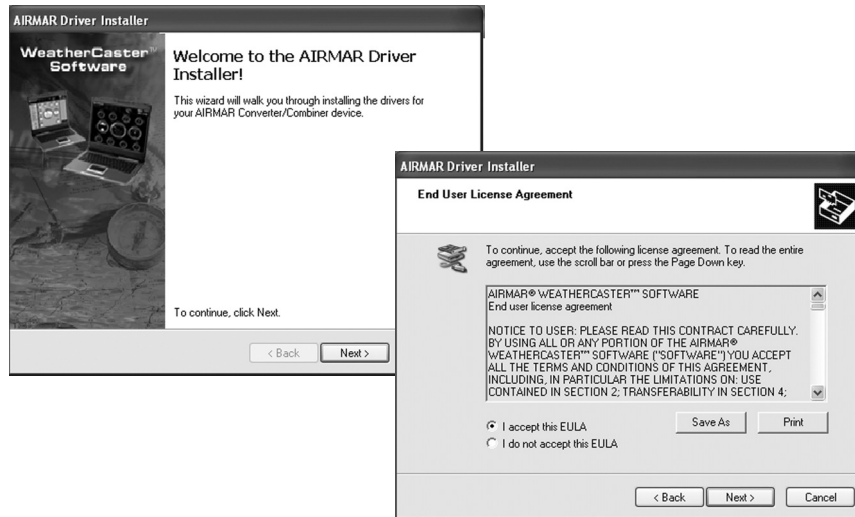

Figure 8. Driver Installer and End User License Agreement windows
2. The Driver Installer window will appear (see Figure 8). Click Next to continue.
3. The End User License Agreement window will follow (see Figure 8). Click the I accept this EULA button to accept the agreement. Click Next to continue.